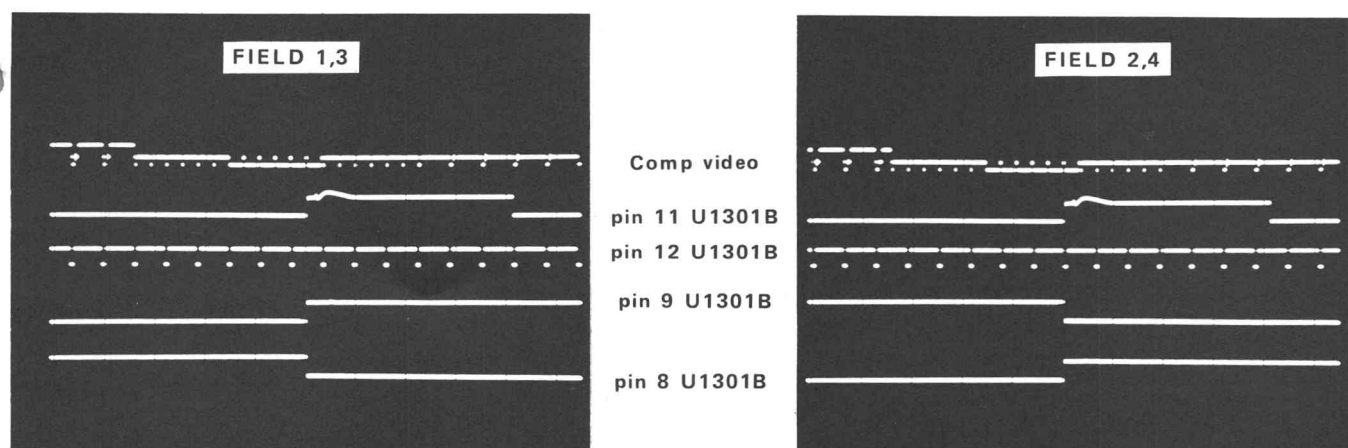

Fig. 3-2. Field Recognition timing waveforms.
U1301B has square-wave outputs that are used for selecting VITS fields. The clock input, pin 11, receives a six and one-half line wide, field-rate pulse from the divide-by-525 counter. The data (D) input, pin 12, gets an inverted $8\ \mu\text{s}$ wide, line-rate pulse from the divide-by-64 counter. If the data input is high when the clock pulse goes high, pin 9 will go high. This condition occurs at the start of fields 1 & 3. At the start of fields 2 & 4, the data input is low when the clock pulse goes high, so pin 9 switches low. See Fig. 3-2 for timing diagrams.